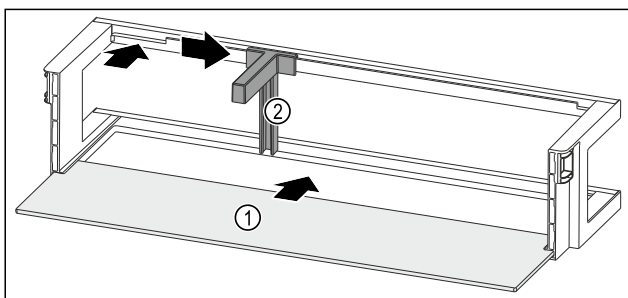

Fig. 246 Door rack with shelf
- ▶ Push the shelf Fig. 246 (1) into the side recesses.
- ▶ Insert the bottle holder Fig. 246 (2) in the recess.
- ▶ Push the bottle holder Fig. 246 (2) to the desired position to the side.